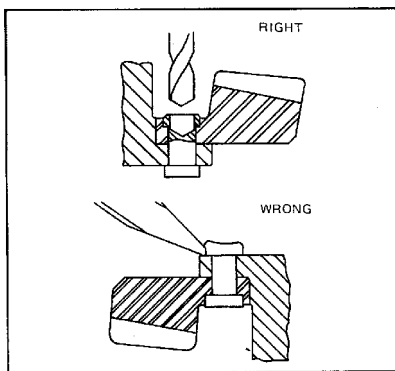

Figure 4. Removing Gear Rivet.
4. Remove rivets and separate gear and case if required (refer to Fig. 4).